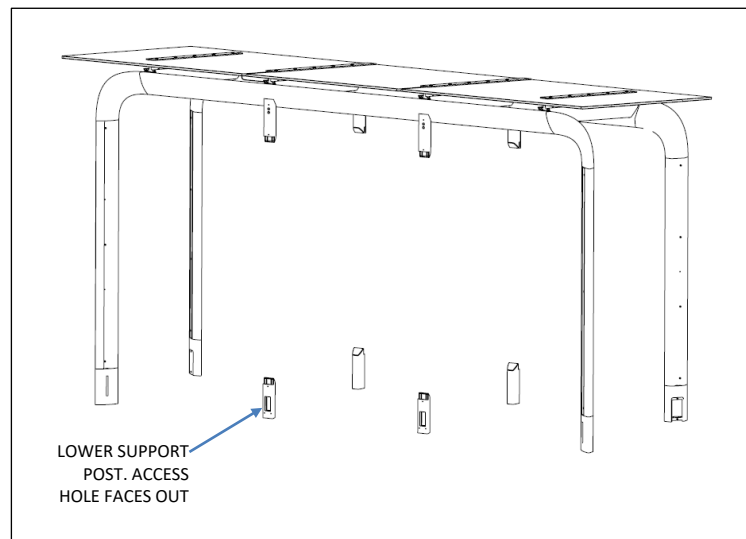

Fig. E1 – lower posts for glass walls
1. Set lower posts in position – note orientation of access hole. See Figs. E1 and E2. Secure with 1/2-13 nut and washer, included in hardware pack #62600. Do not fully tighten.